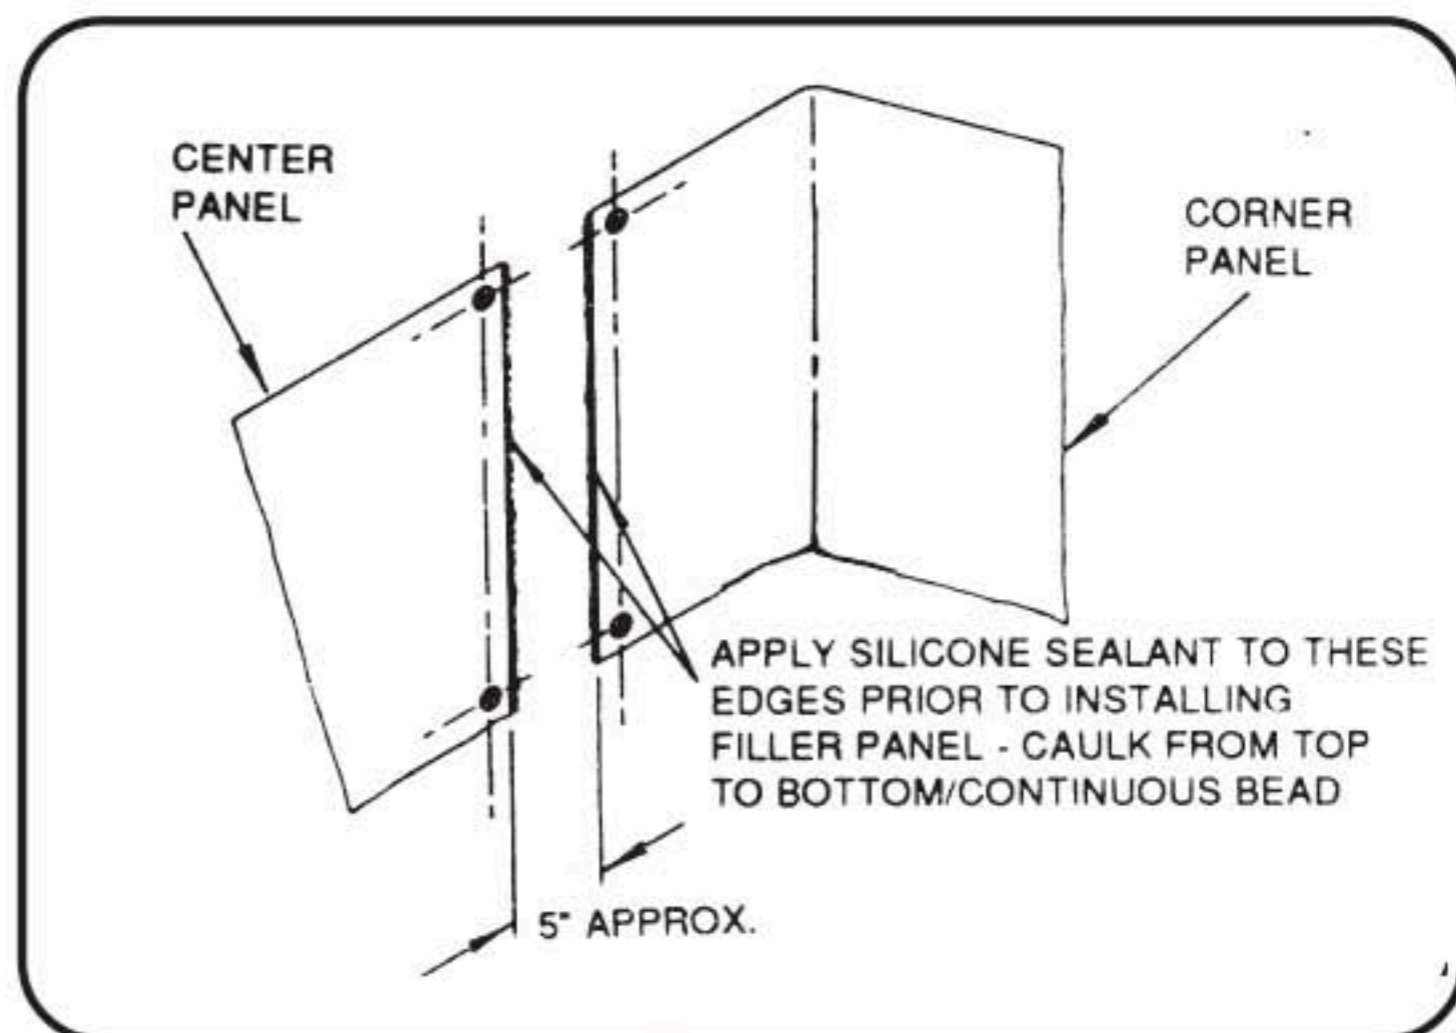

FIG. 6
6. Now the **Center** and **Corner Panels** are permanently in place, apply a bead of silicone sealant to the edges of both panels - continuous bead from top to bottom. (FIG. 6)